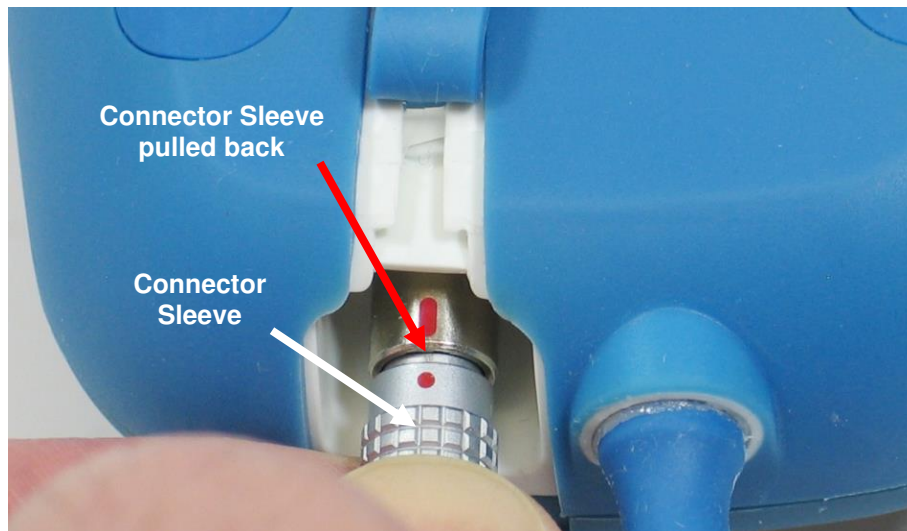

Figure 88: Close-up of the Connector Sleeve
17. Hold and pull back on the metal sleeve of the Bootstrap Loader cable connector to disconnect it from the Guardio/Vesta Charger. **See Figure 88.**